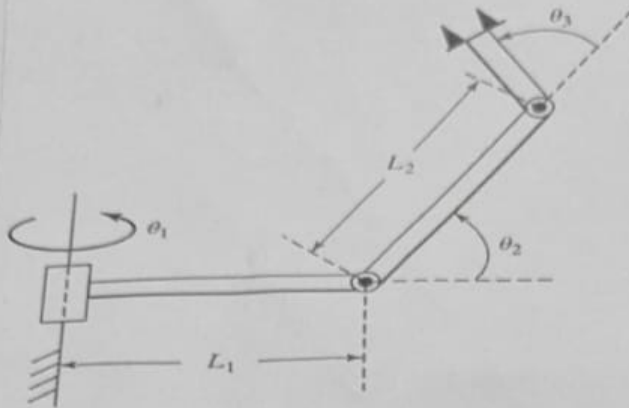

Figure-1
B) Derive the inverse kinematics for the three-link manipulator arm shown in above Figure-1 (8 Marks)